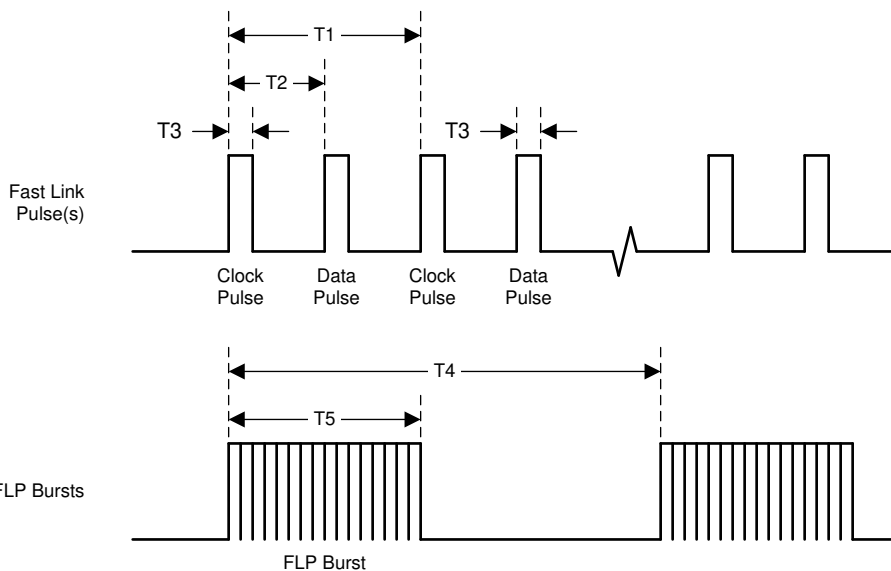

Figure 6-14. Fast Link Pulse Timing
- (1) Specified by production test, characterization, or design.
(2) See Figure 6-14.